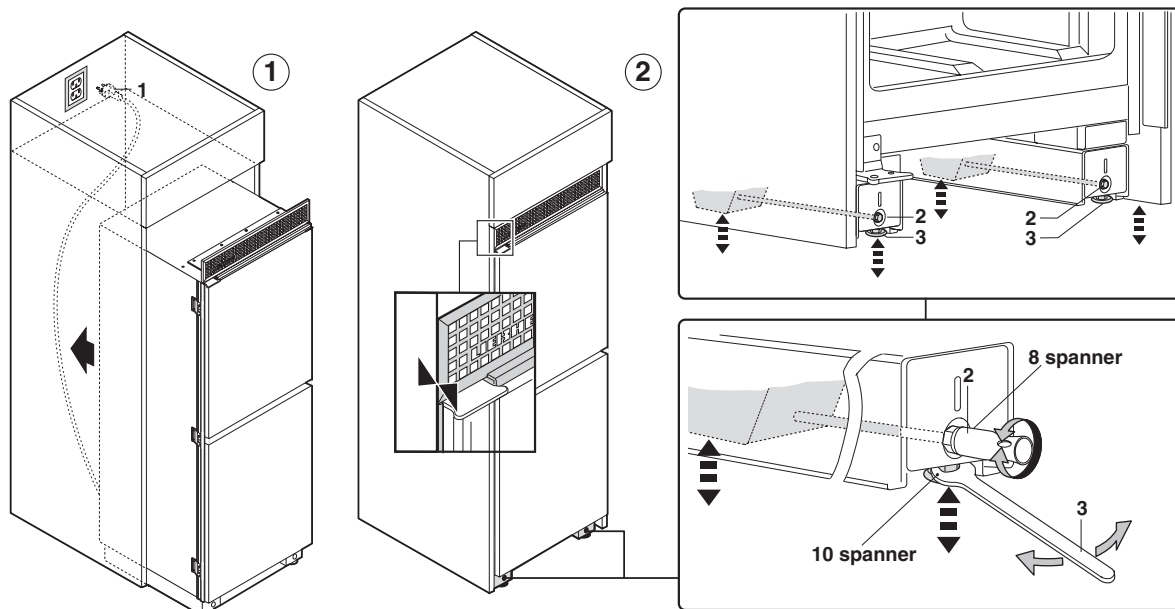

Figure 17
- **Figure 17:** Connect the appliance to the main power supply.
2. Align the appliance until it is parallel with the surrounding kitchen cabinet. Use the open-end wrench 10 mm (3) to adjust the feet at the front. Turn clockwise for up and counterclockwise for down. For the rear use the adjusting